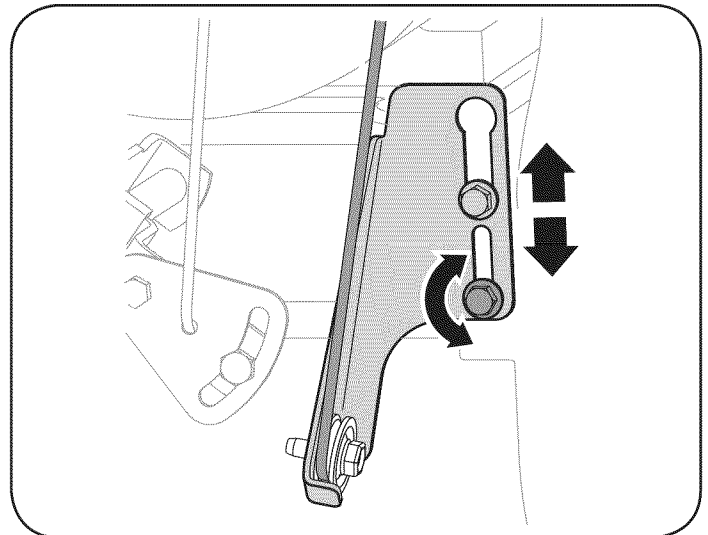

Figure 23
- b. Loosen the lower hex bolt on the drive cable bracket. See Figure 23.